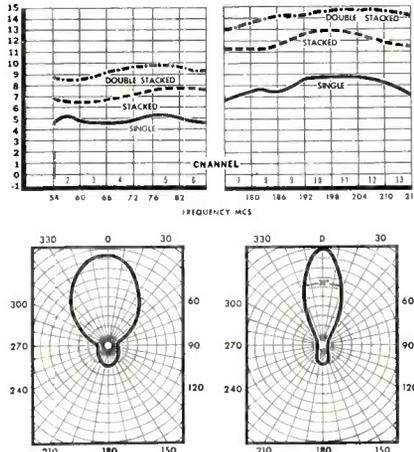
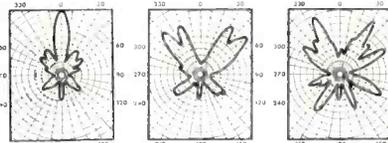

Fig. 5 (top)—Gain figures, new antenna in single, 2-bay, and 4-bay versions. (Bottom)—Horizontal polar patterns for the wide-band antenna.
Fig. 6—Horizontal patterns on UHF.
Realizing the importance of preassembly in television antennas, this antenna was designed so that it could be folded in manufacture and opened up for installation in a few seconds. Gain figures and typical horizontal polar patterns for this antenna in the single, two bay, and four bay versions are shown in Fig. 5. The high band efficiency of
Typical horizontal polar patterns on the *uhf* band are shown in Fig. 6. It can be seen that although there are many different lobes, good *uhf* performance can be achieved by orienting the antenna so that the signal is received by one of the stronger lobes.
- A. A demodulator probe, such as shown in Fig. 5, introduces no distortion into the pattern. The result of testing the output from a generator with reasonably good sine-wave modulation is shown in Fig. 6.